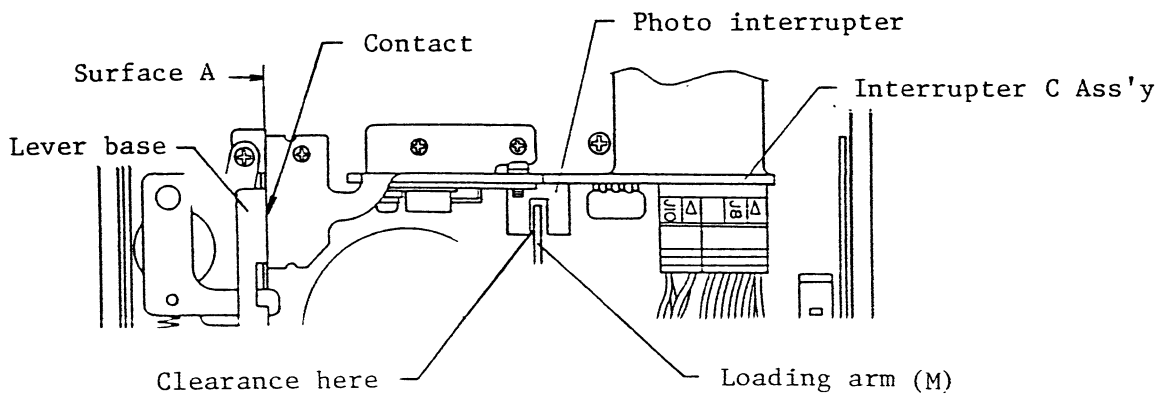

Fig.440 Replacement of interrupter C Ass'y (3)
- (ii) Attach the interrupter C Ass'y so that the face A touches the side face of the lever base (Fig. 440).
- (iii) Check if there is a clearance between the photo interrupter of the interrupter C Ass'y and the loading arm (M) (Fig. 440).